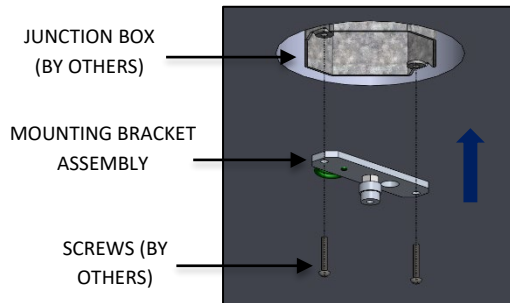

FIG. 20 – MOUNTING BRACKET
3. Assemble the MOUNTING BRACKET ASSEMBLY to the JUNCTION BOX the fixture will mount to (by others) with screws (by others) as shown in FIG. 20 below.